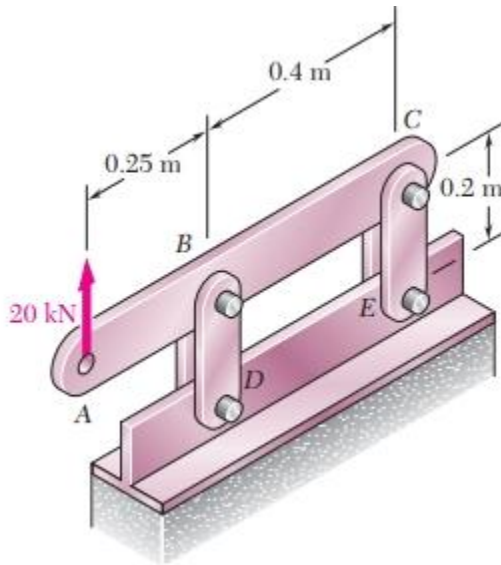

Figure 1
b. In Figure 1, each of the four vertical links has an 8×36 -mm uniform rectangular cross section and each of the four pins has a 16-mm diameter. Determine